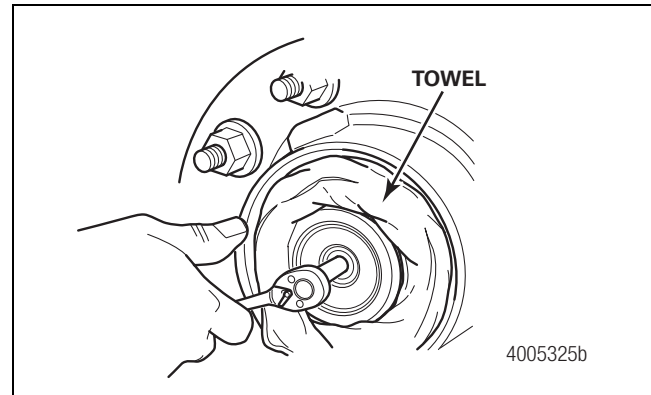

Figure 2.41
2. Use a 5/8-inch socket to tighten the stator approximately 2-1/2 additional turns, or 20-25 lb-ft (27.11-33.89 N•m), to obtain an airtight seal. Figure 2.41.